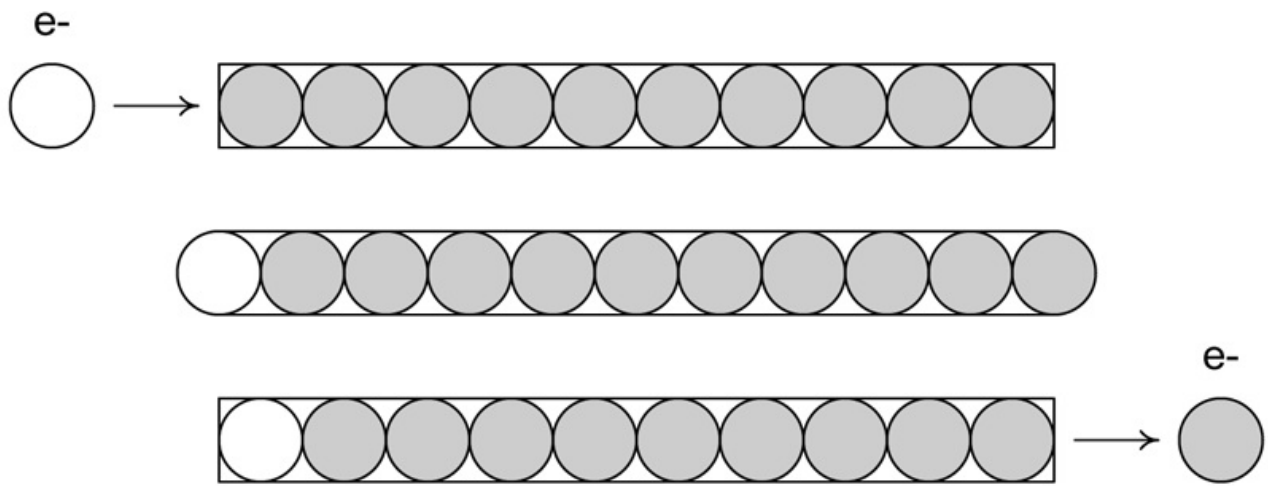

Figure 1-3. Modeling electrons with marbles in a tube
**Figure 1-3** shows another way to think about current. In this case, we have a tube (a conductor) filled end to end with marbles (electrons).
When we push a marble into one end of the tube in Figure 1-3, a marble falls out the opposite end. The net number of marbles in the tube remains the same. Note that the electrons put into one end of a conductor are not necessarily the ones that come out the other end, as you can see from Figures 1-2 and 1-3. In fact, if the conductor is long enough, the electrons introduced at one end might not be the ones that appear at the other end, but electrons would appear, and you would still be able to measure electron movement in the conductor.